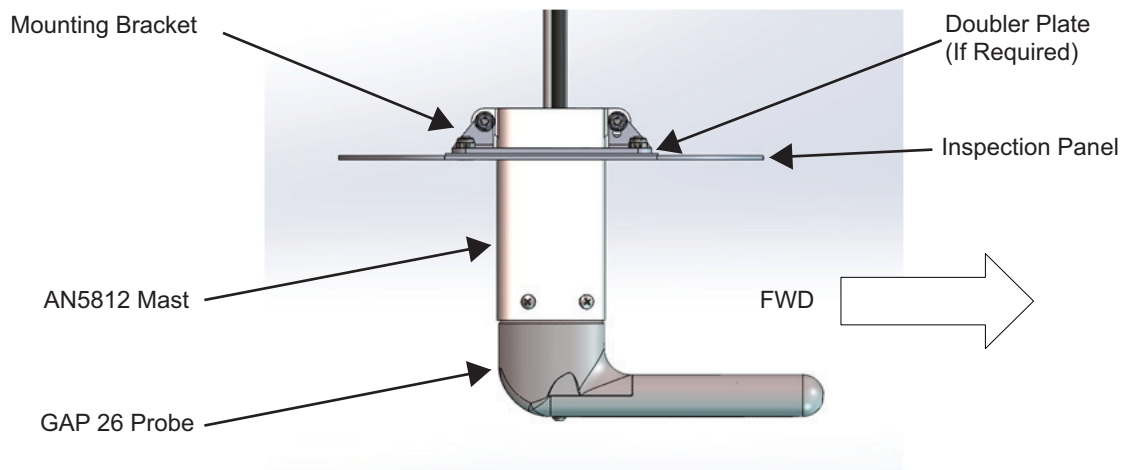

Figure 5-2. GAP 26 Probe and Mount (Side View)
- A sheet metal template for the cutout and mounting holes has been included. Using this template will provide required clearance to make the five degree adjustment after installation if needed. To make the five degree pitch down adjustment, remove the leading edge mounting bolt where the AN5812 Mast connects to the mounting bracket (see Figure 5-2). Loosen the aft side mounting bolt and turn the mast downward until the leading edge mounting hole aligns with the offset hole provided on the mounting bracket. Install the leading edge mounting bolt with the mast in this position and tighten the aft side bolt.